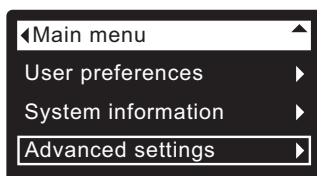

FIG. 65
1. From any of the rolling status screens, press the SELECT (O) button to display the **Main menu**.
2. Press the DOWN (▼) button to scroll through the menu options until **Advanced settings** is highlighted (See Figure 65).